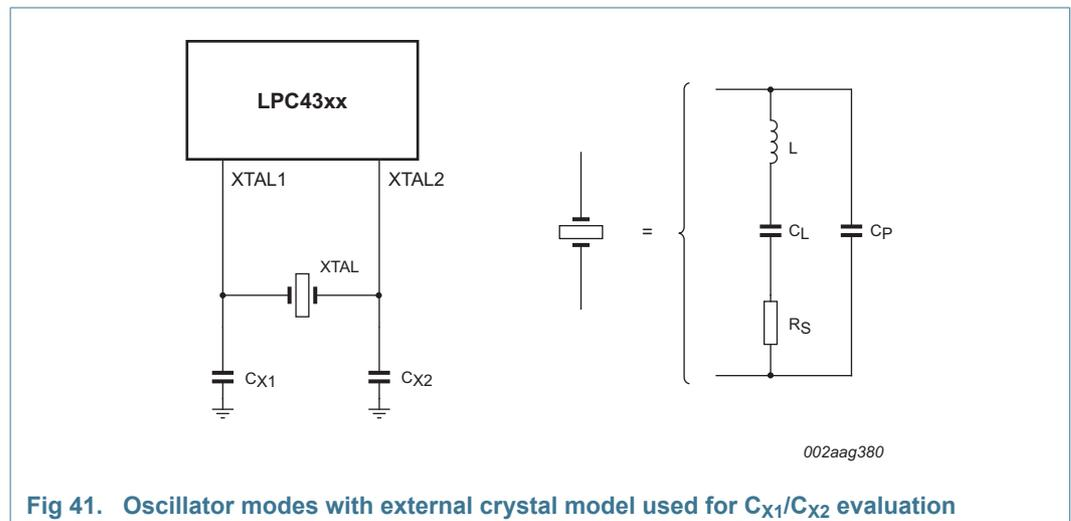

Fig 41. Oscillator modes with external crystal model used for C_{X1}/C_{X2} evaluation
- External components and models used in oscillation mode are shown in Figure 41, and in Table 43 and Table 44. Since the feedback resistance is integrated on chip, only a crystal and the capacitances C_{X1} and C_{X2} need to be connected externally in case of fundamental mode oscillation (the fundamental frequency is represented by L , CL and RS). Capacitance C_P in Figure 41 represents the parallel package capacitance and should not be larger than 7 pF. Parameters FC , CL , RS and CP are supplied by the crystal manufacturer.